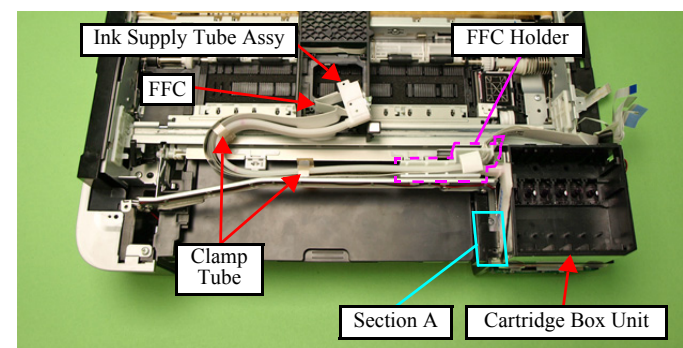

Figure 4-81. Removing the Ink Supply Tube Assy
To prevent ink leakage, make sure not to separate the Ink Supply Tube Assy and the Cartridge Box Unit by removing the screws (x2) on the section A shown in Fig. 4-81. Loosening the screws on the section A even just once will cause ink leakage, therefore, make sure to replace the Ink Supply IC Holder Assy with a new one.
5. Release the Clamp Tubes (x2). (See Fig. 4-81.)